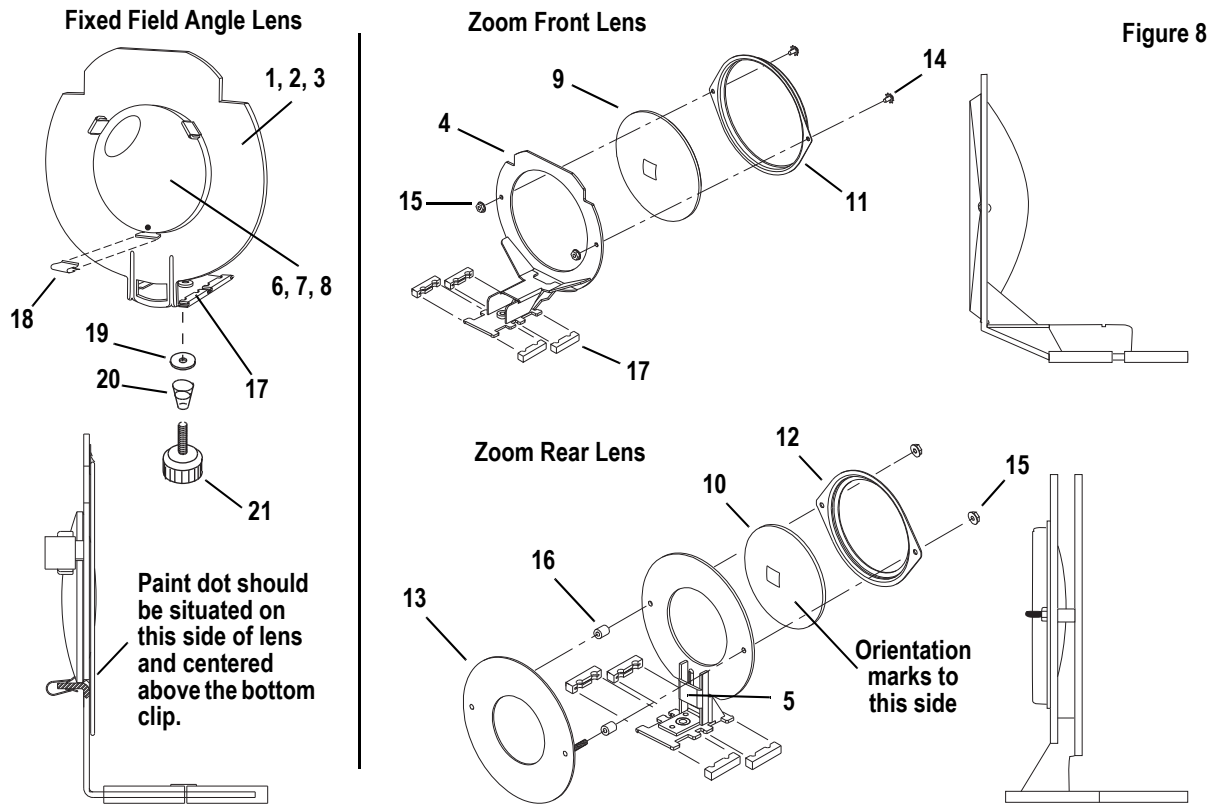

Figure 8
- Step 2: Position the lens by centering the paint dot above the bottom tab notch, as shown in Figure 8. This will keep the paint dot visible after the fixture is fully assembled.
- Step 3: Center one Tinnerman clip (18) on each tab, and press clip until it is fully seated. If clips are in uneven positions, lens will be tilted or loose.
- Step 6: Snap the bushings (17) onto the lens holder assembly as shown.
- Step 1: Position the lens (9) between the lens holder (4) and the lens cover (11) so that the convex side of the lens faces the lens holder, as shown in Figure 8.
- Step 3: Secure the lens cover and the lens to the lens holder using screws (14) and locking nuts (15). Tighten securely to ensure the lens cannot move.
- Step 4: Snap the bushings (17) onto the lens holder (4) as shown.
- Step 1: Slide spacers (16) over the PEM studs of the secondary aperture plate (13), as shown in Figure 8.
- Step 2: Insert the PEM studs on the secondary aperture plate (13) through the holes in the lens holder (5).
- Step 3: Position the lens (10) between the lens holder (5) and lens cover (12) as shown. The blue orientation marks on the lens should face the lens holder.
- Step 4: Insert the PEM studs of the secondary aperture plate (13) through the lens cover (12).
- Step 5: Secure the lens cover, lens, and aperture plate using nuts (15).
- Step 6: Snap the bushings (17) onto the lens holder (5) as shown.